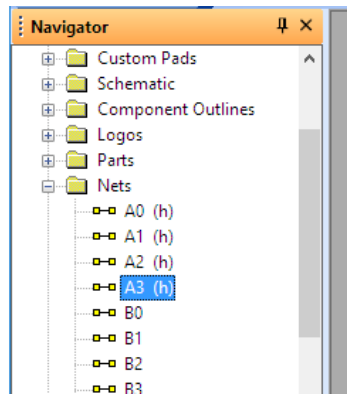

Figure 146
- Sig** When selected (ticked), all the unroutes that have not been defined as power rails will be visible, unless they have been "hidden" (right click a net from the the Nets folder of the navigator, then select *Hide Net Unroutes* - the net will be marked in the navigator with "(h)" to indicate it is hidden Figure 146).
**Pwr** When selected (ticked), all the unroutes that have been defined as power rails will be visible, unless they have been “hidden” (right click a net from the the Nets folder of the navigator, then select *Hide Net Unroutes* - the net will be marked in the navigator with “(h)” to indicate it is hidden see Figure 146).